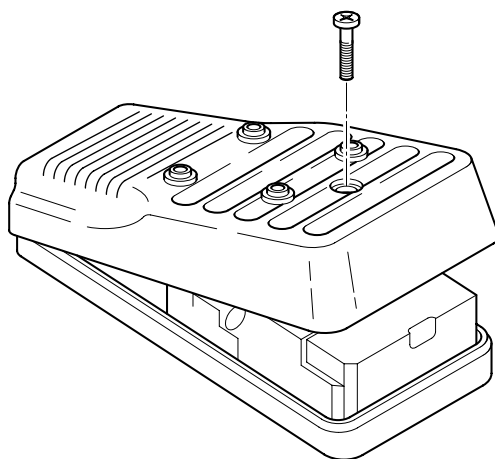

Figure 28: Handsfree cover removal
3. (Figure 28) Reinstall the front cover onto the handsfree assembly by reconnecting the speaker lead onto the handsfree PCB and reinstalling the cover securing screw.